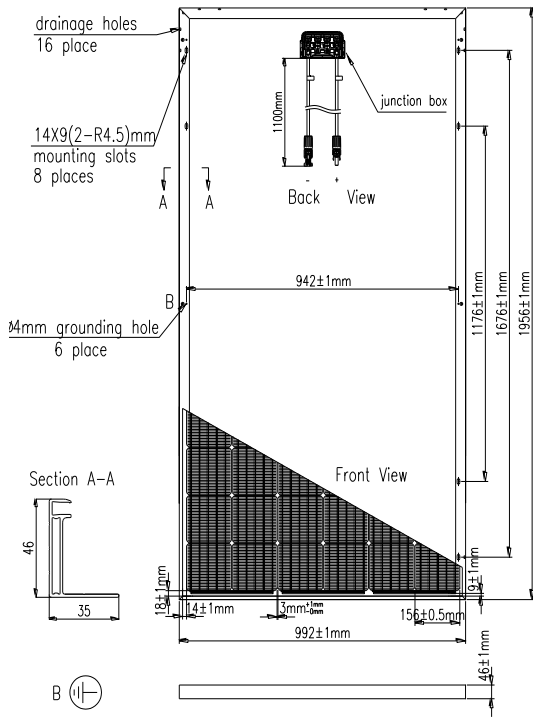
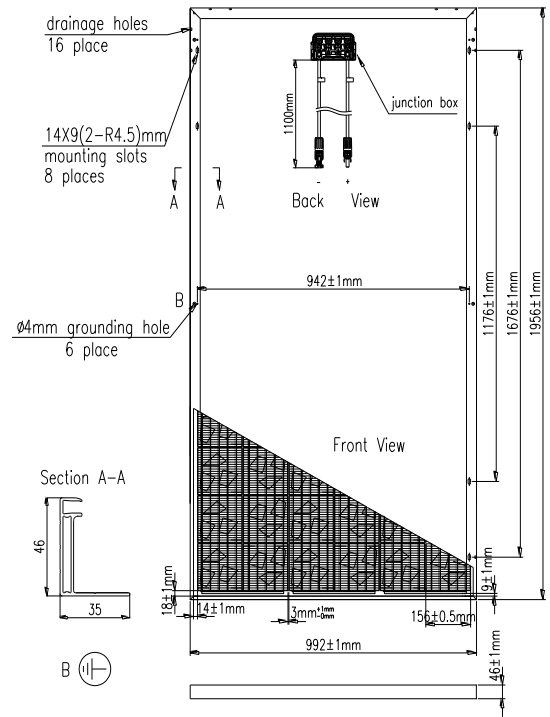
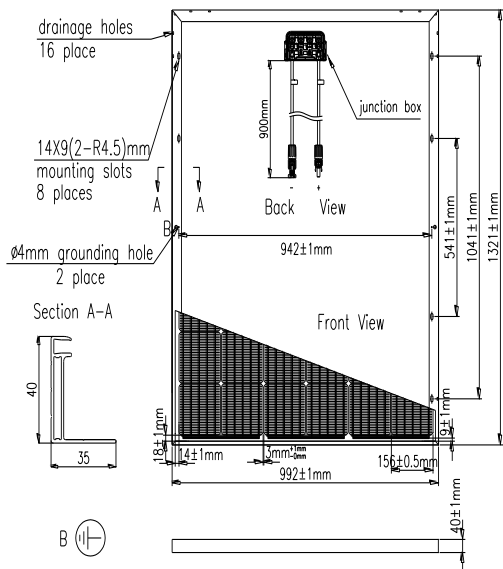

Fig.5-1
Fig.5-2
Fig.5-3
- ① Each module has two grounding holes (see Fig.5-1、 Fig.5-2、 Fig.5-3、 Fig.5-4、 Fig.5-5、 Fig.5-6、 Fig.5-7、 Fig.5-8、 Fig.5-9、 Fig.5-10). The symbol is located adjacent to the terminal.